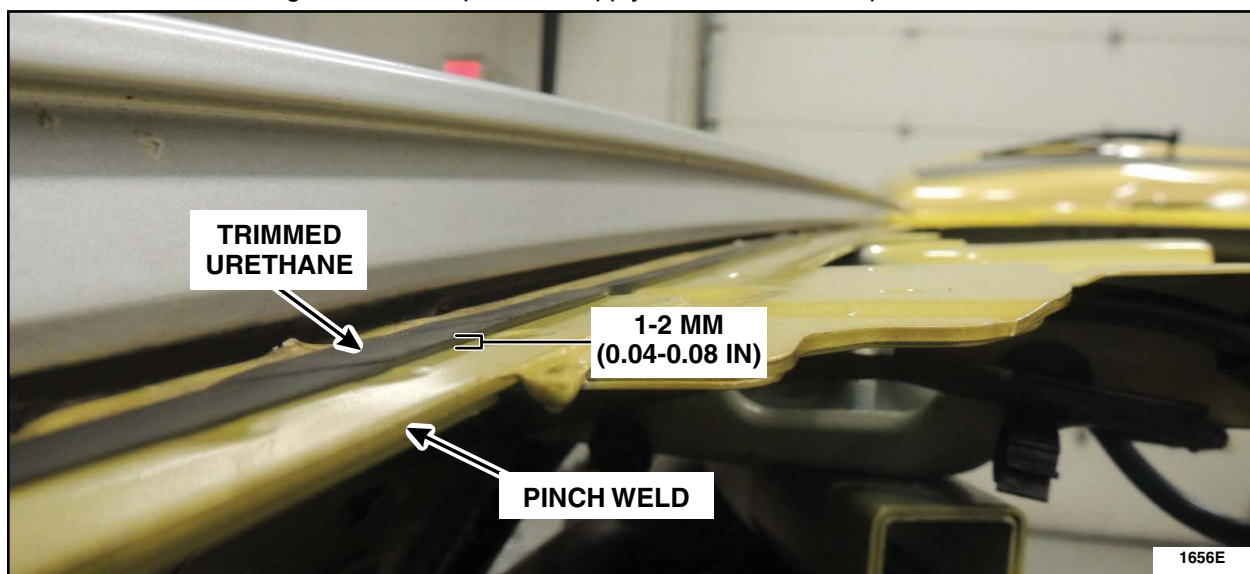

FIGURE 9
12. Prepare the vehicle pinch weld. See Figure 9.